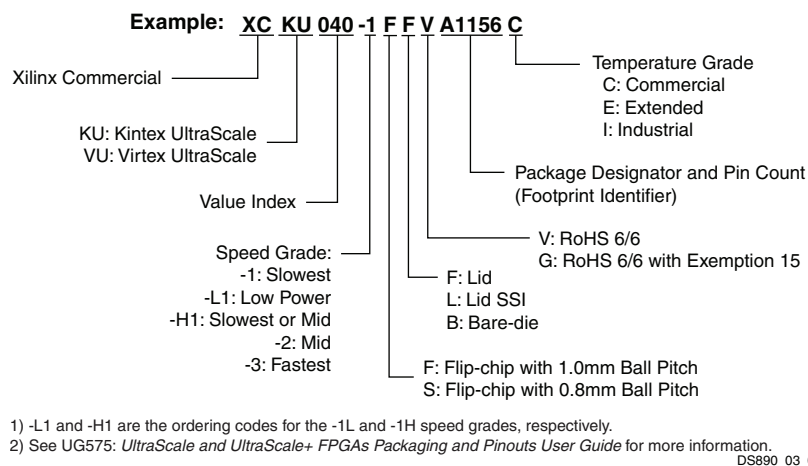
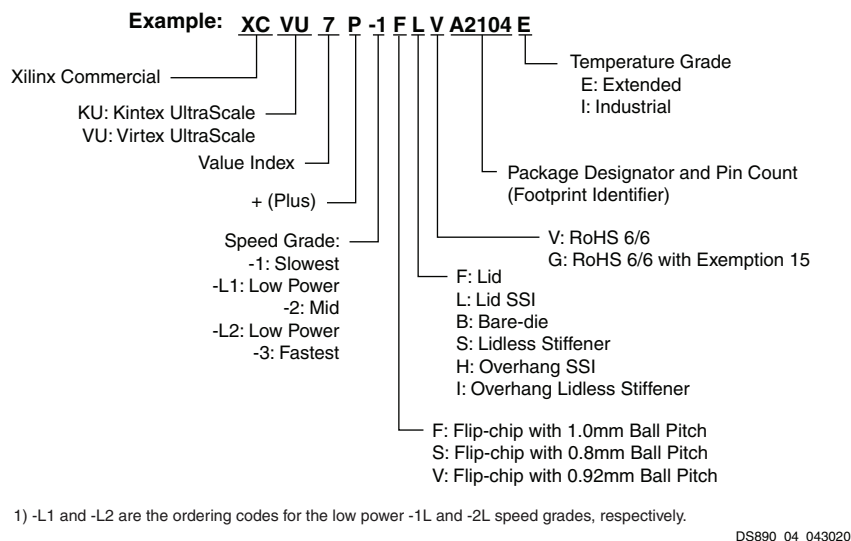
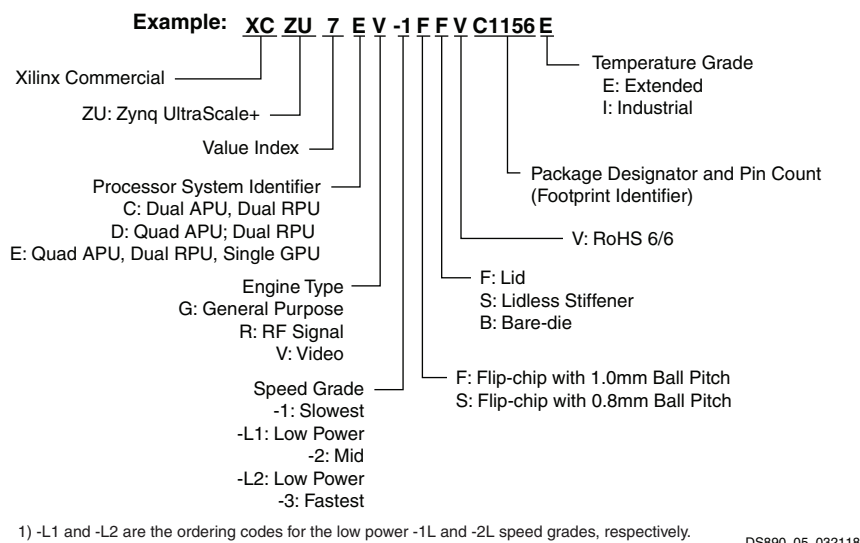

**Figure 3: Kintex UltraScale and Virtex UltraScale FPGA Ordering Information**
Figure 4: UltraScale+ FPGA Ordering Information
Figure 5: Zynq UltraScale+ MPSoC and RFSoc Ordering Information
The ordering information shown in Figure 3 applies to all packages in the Kintex UltraScale and Virtex UltraScale FPGAs. Refer to the Package Marking section of UG575, UltraScale and UltraScale+ FPGAs Packaging and Pinouts User Guide for a more detailed explanation of the device markings.
The ordering information shown in Figure 4 applies to all packages in the Kintex UltraScale+ and Virtex UltraScale+ FPGAs, and Figure 5 applies to Zynq UltraScale+ MPSoCs and RFSocCs.
| 11/15/2017 | 3.1     | Updated <a href="#">Table 20</a> with FSVE1156, FSVG1517, and FSVF1760 packages. Updated <a href="#">Figure 5</a> .                                                                                                                                                                                                                                                                                                                                                                                                                                                                                                                                                                                                                                                                                                                                                                                                                                                             |
| 10/03/2017 | 3.0     | Added Zynq UltraScale+ RFSoc information throughout document. Updated <a href="#">General Description</a> , <a href="#">Table 1</a> , <a href="#">RF Data Converter Subsystem Overview</a> , <a href="#">Soft Decision Forward Error Correction (SD-FEC) Overview</a> , <a href="#">Processing System Overview</a> (including <a href="#">Table 2</a> ), <a href="#">Configuration</a> , <a href="#">Encryption</a> , and <a href="#">System Monitoring</a> , <a href="#">Table 23</a> , <a href="#">Table 25</a> , and <a href="#">Figure 5</a> . Updated UltraRAM ZU4CG/ZU4EG/ZU4EV values in <a href="#">Table 13</a> , <a href="#">Table 15</a> , <a href="#">Table 17</a> . Added <a href="#">Table 19</a> , <a href="#">Table 20</a> , <a href="#">RF Data Converter Subsystem Overview</a> , and <a href="#">Soft Decision Forward Error Correction (SD-FEC) Overview</a> . Updated <a href="#">Figure 3</a> , <a href="#">Figure 4</a> , and <a href="#">Figure 5</a> . |
| 06/03/2016 | 2.8     | Added Zynq UltraScale+ MPSoC CG devices: Added <a href="#">Table 2</a> . Updated <a href="#">Table 13</a> , <a href="#">Table 14</a> , <a href="#">Table 25</a> , and <a href="#">Figure 5</a> . Created separate tables for EG and EV devices: <a href="#">Table 15</a> , <a href="#">Table 16</a> , <a href="#">Table 17</a> , and <a href="#">Table 18</a> .Updated <a href="#">Table 1</a> , <a href="#">Table 3</a> , <a href="#">Table 5</a> and notes, <a href="#">Table 6</a> and notes, <a href="#">Table 7</a> , <a href="#">Table 9</a> , <a href="#">Table 12</a> , <a href="#">Processing System Overview</a> , and <a href="#">Processing System (PS)</a> details. |
| 02/17/2016 | 2.7     | Added <a href="#">Migrating Devices</a> . Updated <a href="#">Table 4</a> , <a href="#">Table 5</a> , <a href="#">Table 6</a> , <a href="#">Table 12</a> , <a href="#">Table 13</a> , <a href="#">Table 14</a> , and <a href="#">Figure 4</a> .                                                                                                                                                                                                                                                                                                                                                                                                                                      |
| 10/15/2015 | 2.4     | Updated <a href="#">Table 1</a> , <a href="#">Table 3</a> , <a href="#">Table 5</a> , <a href="#">Table 7</a> , <a href="#">Table 9</a> , and <a href="#">Table 13</a> with System Logic Cells. Updated <a href="#">Figure 3</a> . Updated <a href="#">Table 23</a> .                                                                                                                                                                                                                                                                                                                                                                                                                |
| 09/29/2015 | 2.3     | Added A1156 to KU095 in <a href="#">Table 4</a> . Updated <a href="#">Table 5</a> . Updated Max. Distributed RAM in <a href="#">Table 9</a> . Updated Distributed RAM in <a href="#">Table 13</a> . Added <a href="#">Table 23</a> . Updated <a href="#">Table 25</a> . Updated <a href="#">Figure 3</a> .                                                                                                                                                                                                                                                                                                                                                                           |
| 04/27/2015 | 2.1     | Updated <a href="#">Table 1</a> , <a href="#">Table 3</a> , <a href="#">Table 4</a> , <a href="#">Table 5</a> , <a href="#">Table 6</a> , <a href="#">Table 7</a> , <a href="#">Table 12</a> , <a href="#">Table 13</a> , <a href="#">Table 14</a> , <a href="#">Table 21</a> , <a href="#">I/O</a> , <a href="#">Transceiver</a> , <a href="#">PCIe</a> , <a href="#">100G Ethernet</a> , and <a href="#">150G Interlaken</a> , <a href="#">Integrated Interface Blocks for PCI Express Designs</a> , <a href="#">USB 3.0/2.0</a> , <a href="#">Clock Management</a> , <a href="#">System Monitor</a> , and <a href="#">Figure 3</a> .                                              |
| 11/17/2014 | 1.5     | Updated <a href="#">I/O</a> , <a href="#">Transceiver</a> , <a href="#">PCIe</a> , <a href="#">100G Ethernet</a> , and <a href="#">150G Interlaken</a> ; <a href="#">Table 1</a> ; <a href="#">Table 4</a> ; <a href="#">Table 7</a> ; <a href="#">Table 8</a> ; <a href="#">Table 21</a> ; <a href="#">Input/Output</a> ; and <a href="#">Figure 3</a> .                                                                                                                                                                                                                                                                                                                            |
| 09/16/2014 | 1.4     | Updated Logic Cell information in <a href="#">Table 1</a> . Updated <a href="#">Table 3</a> ; <a href="#">I/O</a> , <a href="#">Transceiver</a> , <a href="#">PCIe</a> , <a href="#">100G Ethernet</a> , and <a href="#">150G Interlaken</a> ; <a href="#">Table 7</a> ; <a href="#">Table 8</a> ; <a href="#">Integrated Block for 100G Ethernet</a> ; and <a href="#">Figure 3</a> .                                                                                                                                                                                                                                                                                               |